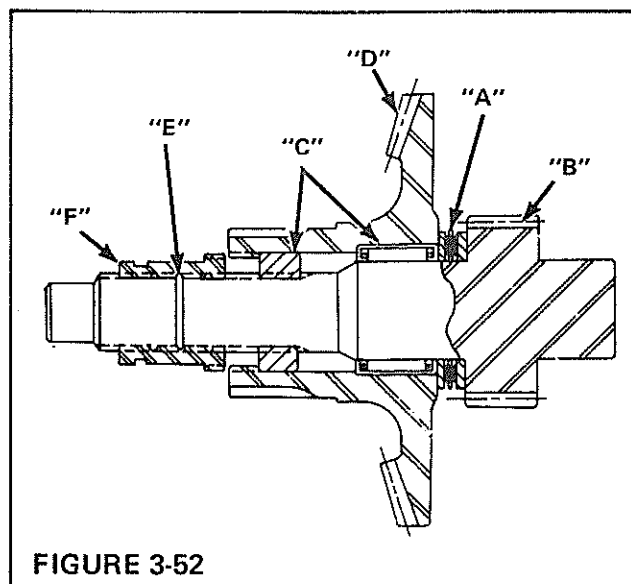
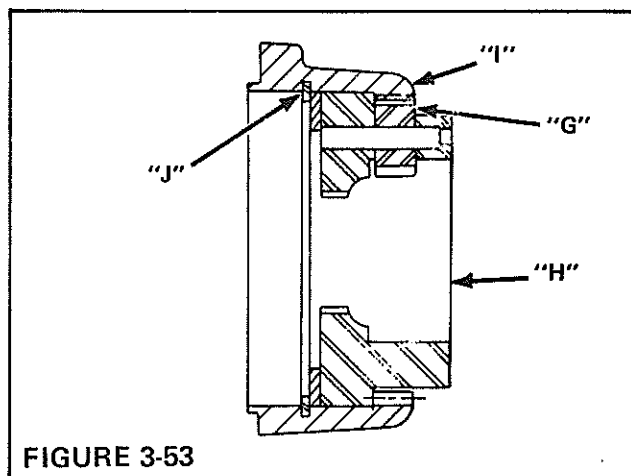

FIGURE 3-52
FIGURE 3-53
1. Speed thrust race, thrust bearing and another thrust race (A) Fig. 3-52 onto pinion shaft (B).
2. Place pinion shaft through roller and needle bearings (C) in bevel gear (D).
3. Carefully place positioning ring (E) in groove of pinion shaft. Be careful of over-stretching the ring.
4. Slide sliding gear (F) over the positioning ring into first detent. The groove for the shifter arm fork must be towards the end of the pinion shaft.
5. Place planetary gears (G) Fig. 3-53 into planetary carrier (H) and secure in place with roll pins. Place the planet carrier assembly into internal ring gear (I). Install the large thrust washer behind the planet carrier and secure the assembly with large retaining ring (J).
6. Install the pinion shaft assembly, Figure 3-52, into the planet gear assembly, Figure 3-53.